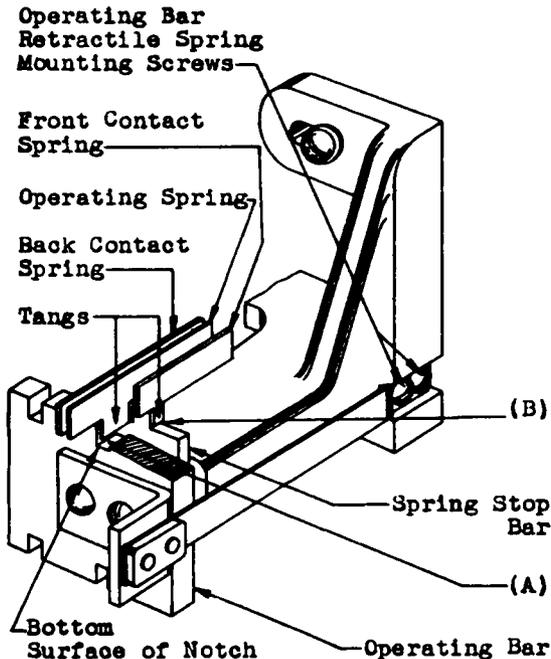

Fig. 8 - Tang Engagement
(a) Fig. 8 (A): The operating spring tang shall project into the notch in the operating bar
(b) Fig. 8 (B) - The contact spring tang shall project into the notch in the spring stop bar